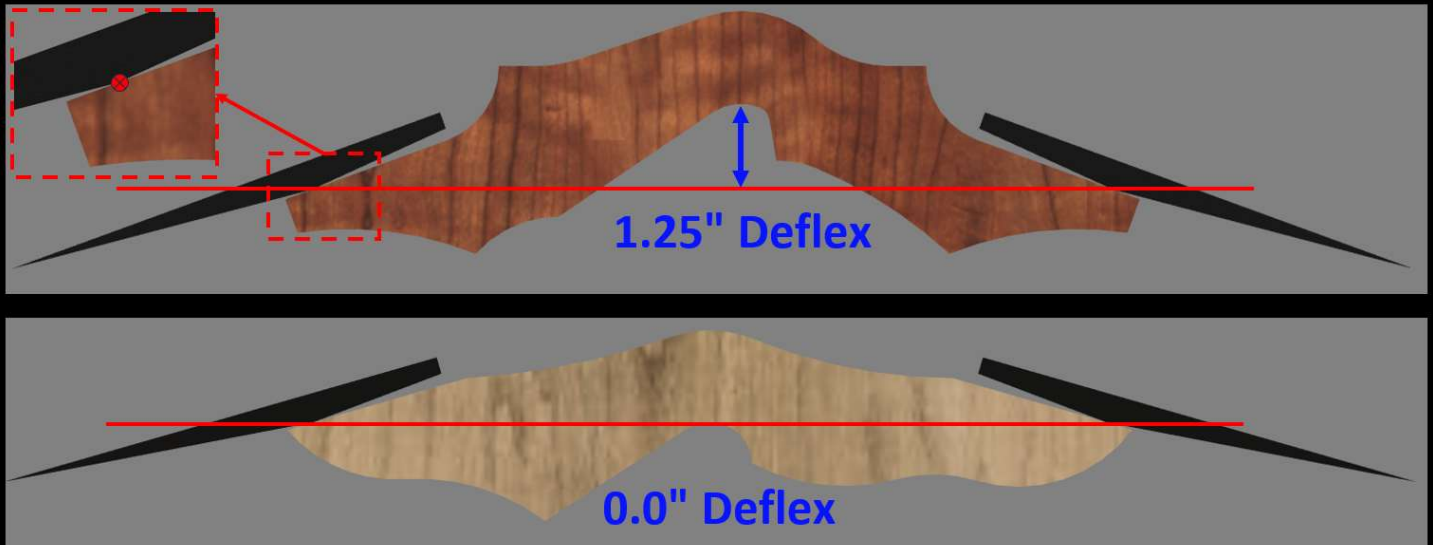

Figure 6 Riser Deflex
a. RISER LENGTH IS THE DISTANT BETWEEN THE UPPER AND LOWER DETENT PIN, MEASURING IN A STRAIGHT LINE ACROSS RISER PLUS 1.25" . SEE FIGURE 6 IN GUIDE IN GENERAL A 19" INCH RISER TYPICALLY HAS A "RISER LENGTH" OF 19" AND LIKEWISE FOR OTHER RISERS BUT ONE SHOULD MAKE SURE THIS IS TRUE FOR THIER GIVEN RISER.
a. RISER LENGTH IS THE DISTANT BETWEEN THE UPPER AND LOWER DETENT PIN, MEASURING IN A STRAIGHT LINE ACROSS RISER **PLUS 1.25"**. SEE FIGURE 6 IN GUIDE IN GENERAL A 19" INCH RISER TYPICALLY HAS A "RISER LENGTH" OF 19" AND LIKEWISE FOR OTHER RISERS BUT ONE SHOULD MAKE SURE THIS IS TRUE FOR THIER GIVEN RISER.
a. RISER LENGTH IS THE DISTANT BETWEEN THE UPPER AND LOWER DETENT PIN, MEASURING IN A STRAIGHT LINE ACROSS RISER **PLUS 1.25"**. SEE FIGURE 6 IN GUIDE IN GENERAL A 25" INCH RISER TYPICALLY HAS A "RISER LENGTH" OF 25" AND LIKEWISE FOR OTHER RISERS BUT ONE SHOULD MAKE SURE THIS IS TRUE FOR THIER GIVEN RISER.